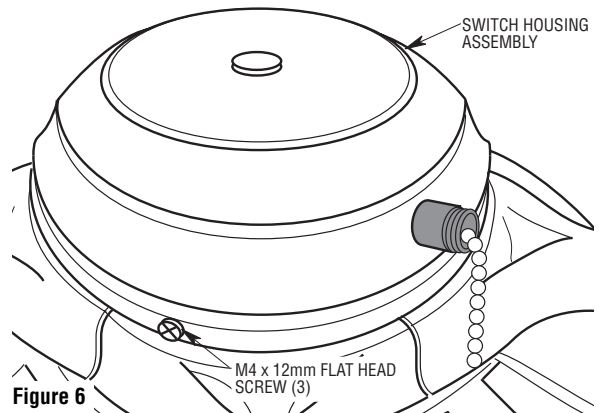

Figure 6
- 10. Position the switch housing assembly on the switch housing plate and align the holes in the switch housing assembly with the holes in the plate. Secure the switch housing assembly by installing the three M4 x 12mm flat head screws (supplied) (Figure 6).